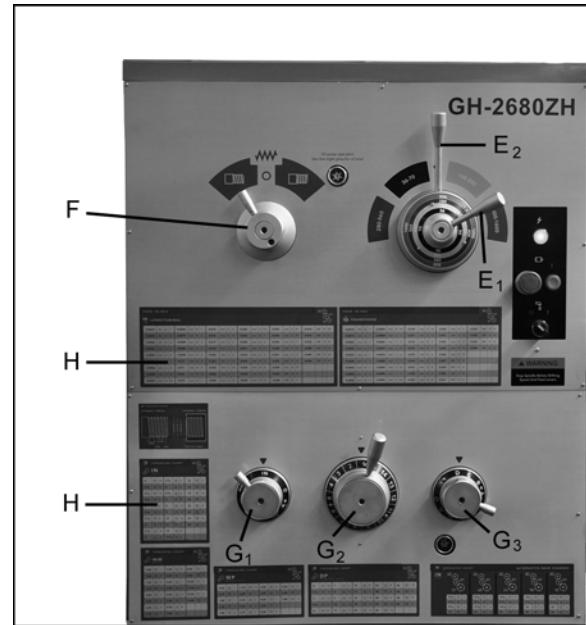

Figure 31
Twelve speeds are available by placing the first speed lever (E1, Figure 31) in one of four positions, and placing second lever (E2) in a position that matches the color for the range you desire. These selections are identified on the lever hub, as well as in Table 6, section 16.3.
1. Refer to the *Feed and Thread Chart* on the front of the headstock (H, Figure 31). The chart is also shown in section 16.10 of this manual.
3. Move levers (G1,G2,G3, Figure 31) to the appropriate position according to the Feed and Thread Chart.
1. Move **thread selection lever** (F, Figure 31) to desired direction, for right-hand or left-hand threads. *NOTE: The overrunning clutch in the apron will prevent the tool post from feeding for left-hand threads. It will only feed when right-hand threads are being cut.*
2. Set **speed levers** (E1, E2, Figure 31) to desired speed. Use the lowest speed possible when threading.
3. Select desired thread using **thread pitch levers** (G1, G2, G3, Figure 31) in conjunction with the charts on the headstock. These charts are also included in section 16.10 of this manual.
**NOTE:** When a special thread must be cut that is not found on the chart, move thread change control lever (G1, Figure 31) to  $\overline{\text{III}}$  position, and lever (G3) to **IV**, then reset the change gears.